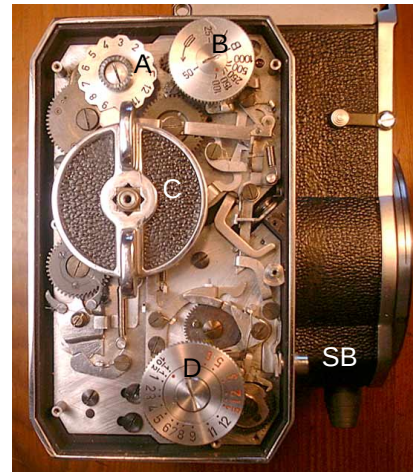

Fig. 1.
Figure 1, shows the mechanism, with the outside dials and knobs replaced. To the top left is the Exposure Counting Wheel (A), to the top right is the Shutter Speed Dial (B). In the middle is the Cocking Wheel/ Winding Gear (C) and below that and to the right is the Time Delayed Action Dial (D). To its right is the shutter release button (SB)
Notice the gear on the back side of the counter dial (A. Fig. 1) and how one half of a gear tooth is cut away - look closely. Notice that the intermediate gear (E) has a 1/8" hole in it, just over one of the ratchet toggles.